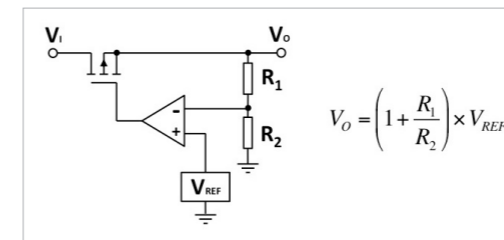

Figure 2: Simplified diagram of a linear series regulator
Greater sophistication in linear regulation is achieved with a series design that uses a pass transistor to regulate the load current and drop the input voltage to the required output level. This concept is shown in figure 2 and such designs are typical of integrated circuit (IC) regulators and also low drop-out (LDO) regulators, which often provide a regulated supply at the “point of load”.